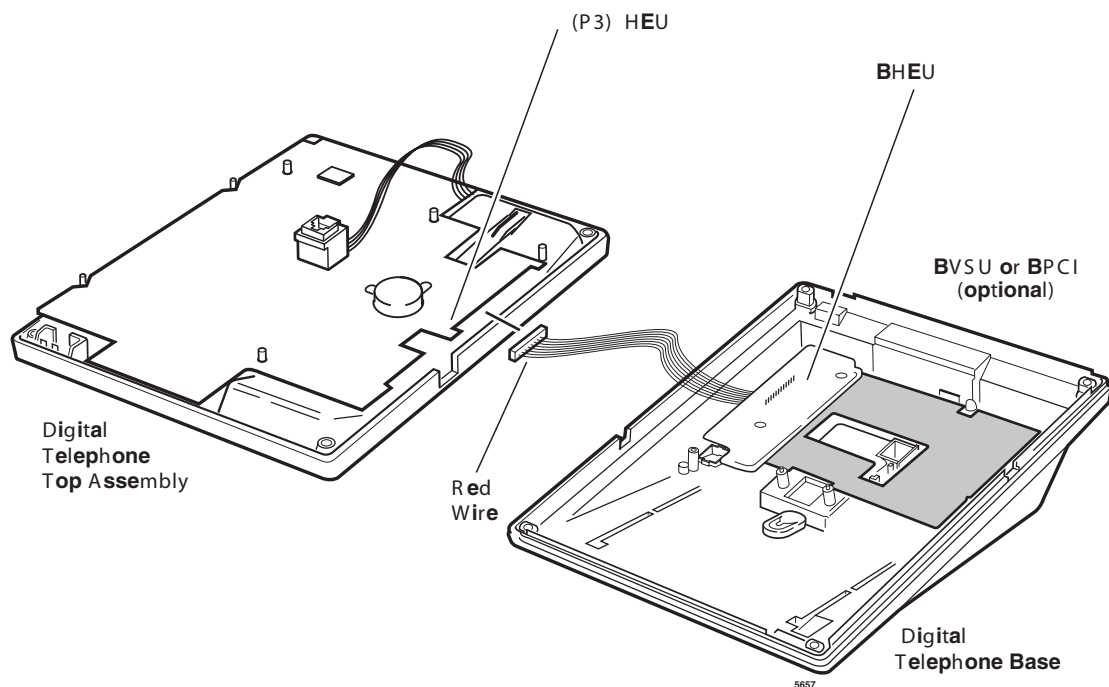

Figure 7-6 BHEU Installation
6. Connect the BHEU integrated wire plug to P3 (HEU) on the telephone base PCB (see Figures 7-6 and 7-9). Note the location of the red wire.